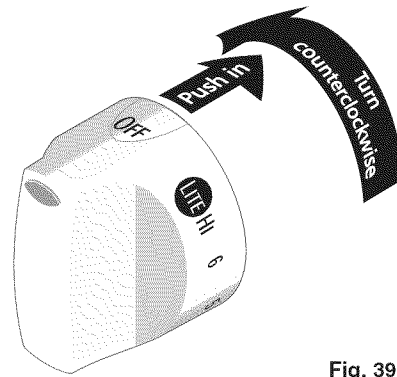

Fig. 39
1. To check for proper lighting, **push in and turn** surface burner knob **counterclockwise** to the (lite) position. You will hear the igniter sparking (Fig. 39).
2. The surface burner should light when gas is available to the top burner. Purge air from supply lines by leaving knob in the (lite) position until burner ignites. Each burner should light within four (4) seconds in normal operation after air has been purged from supply lines.